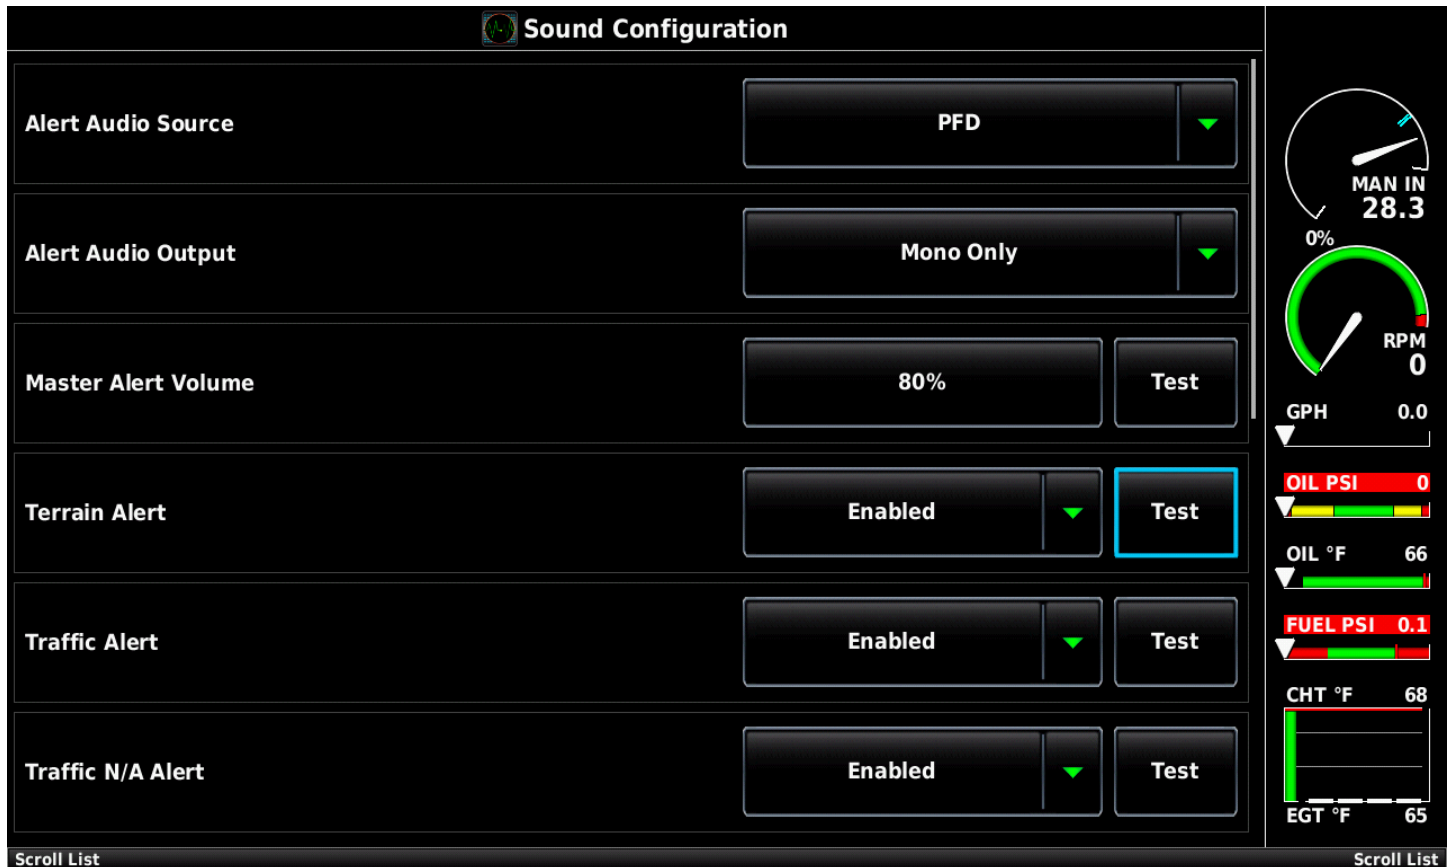

Figure 3: Sound Configuration Menu
6. Select Sound and press one of the TEST buttons shown in Figure 3